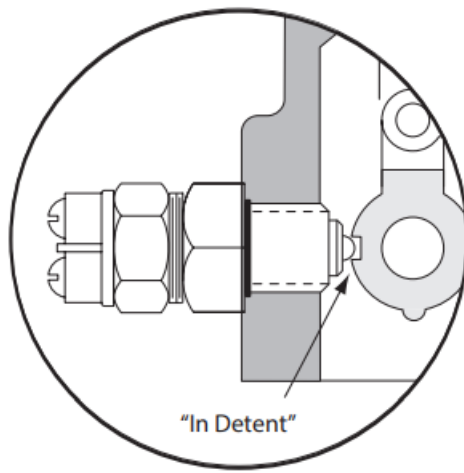

Figure 2-1
- **(a).** First apply a high temperature water resistant grease to the threads. Screw the switch in slowly, while moving the hydraulic control arm back and forth, until “detent” action is detected in the arm movement. See figure 2-1 . Back out the switch until the “detent” action is very slight. Then position the arm out of the detent position (figure 2 -2 ).